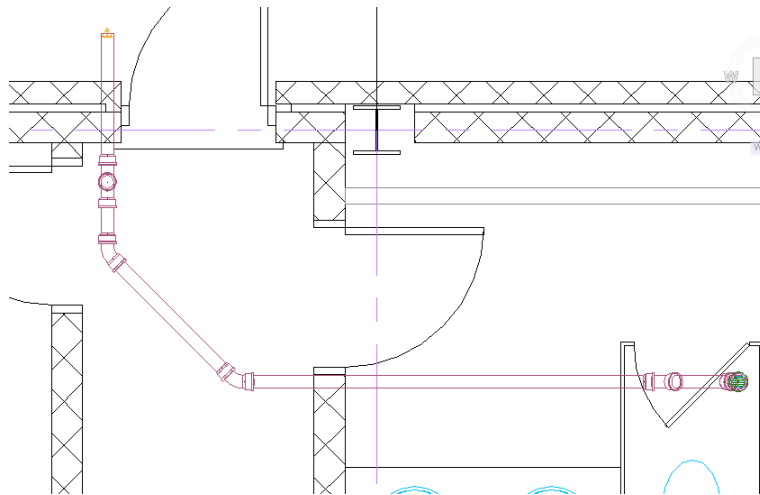

Figure 6.62
18. Move at 45° (the compass will read either 45 or 135) and then click another point in the middle of the corridor (see Figure 6.62).
21. Finally, pick a point outside the wall and then press ENTER to exit the PipeAdd command (see Figure 6.62).